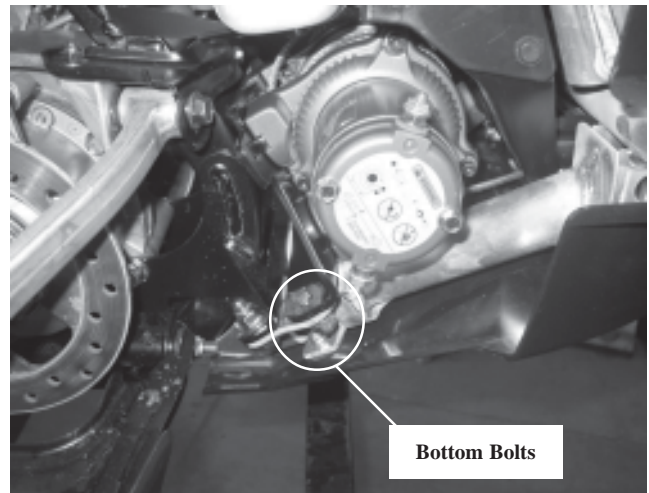

Figure 5
4. Secure mounting bracket (A1) to factory mounting tabs using 2, 5/16 - 18 x 1" hex head bolts (B5) 2, 5/16 - 18 flat washers (B1) and 2, 5/16 - 18 lock nuts (B3). Do not tighten at this time. See Figure 5.